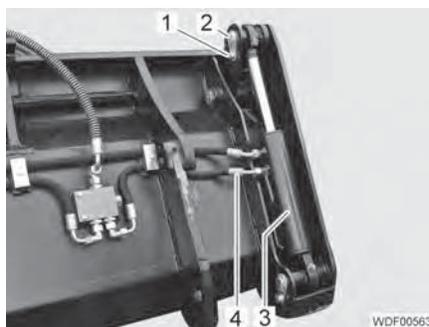

Fig. 473 Hydraulic cylinder of the multi-purpose bucket
- Unscrew and close off the 2 hydraulic lines (Fig. 473,4).
- Unscrew the 2 screws (Fig. 473,1).
- Drive out the 2 pins (Fig. 473,2).
- Remove the hydraulic cylinder (Fig. 473,3).
- Drive in the 2 pins (Fig. 473,2).
- Screw in the 2 screws (Fig. 473,1) with spring lock washers and tighten.
- Screw the 2 hydraulic lines (Fig. 473,4) onto the connections on the hydraulic cylinder and tighten.